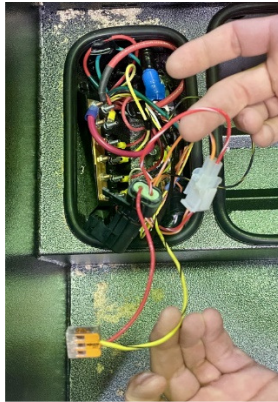

Fig. 2
- Using WAGO or an appropriately sized connector and splice red/white wire with yellow/black wire that should be laying in the same area. Note: The yellow/black wire may have a yellow/red wire attached; since this is an ignition power source, all 3 (yellow/black, yellow/red & red/white) should be connected. Reference Figures 2 & 3